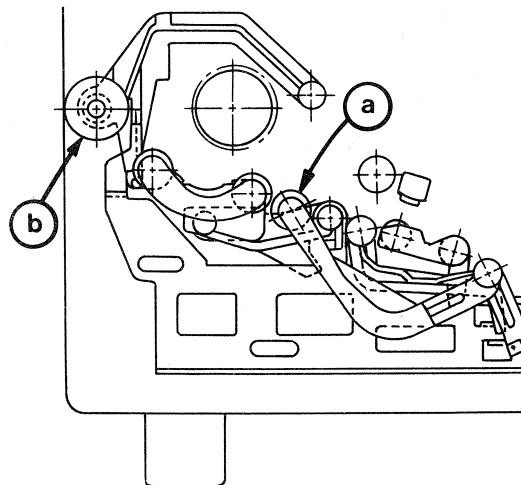

Fig.24
1. Replace if scratch, etc. are found in ② and ⑪, and after installation see to it that ② and ⑪ have smooth rotation.
\*Measurement of spring tension of ③: Take measurement at ⑧ point in Fig. 24 by using bar spring scale (C067).
2. After adjustment, attach the 2000 ft metal reel to the take-up arm, pass the film, turn the knob main to " □ " position and adjust the fixing position of ⑤ for correct position so that hunting of ⑦ are not exceed 10 times.
\*Measurement of spring tension of ⑮: Take measurement at ⑨ point in Fig. 24 by using bar spring scale (C043).